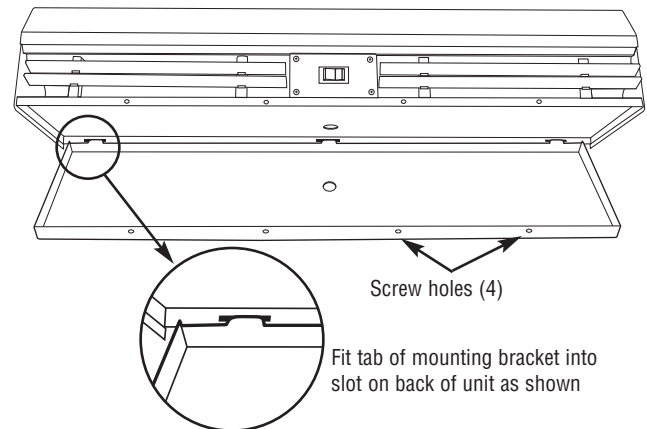

Figure 2
2. Mount air curtain cabinet assembly by simply "hanging" unit onto unit mounting bracket by aligning vertical tabs with air curtain cabinet assembly slots (Figure 2). Secure air curtain to mounting bracket by four (4) phillips screws.